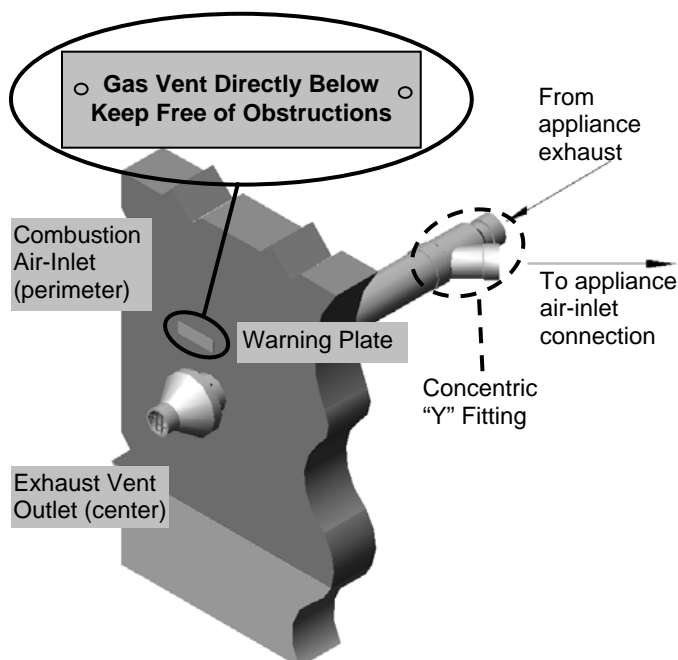

Figure 4-13 All Models
14. **Vent Screens:** Install factory supplied vent screens on the outside of the last elbow for both the inlet and exhaust vent terminal elbows. Install the screen into the female opening of the elbow. Then cut a small piece of pipe to sandwich the screen into the elbow. NOTE: ensure that the small piece of pipe cut, does not extend past the end of the elbow. Two screens are provided in the package. See Figures 4-13. Vent screens are included in Optional Termination Kits unless noted otherwise. See Figure 4-16 through 4-18 for Vent Termination Kit details.